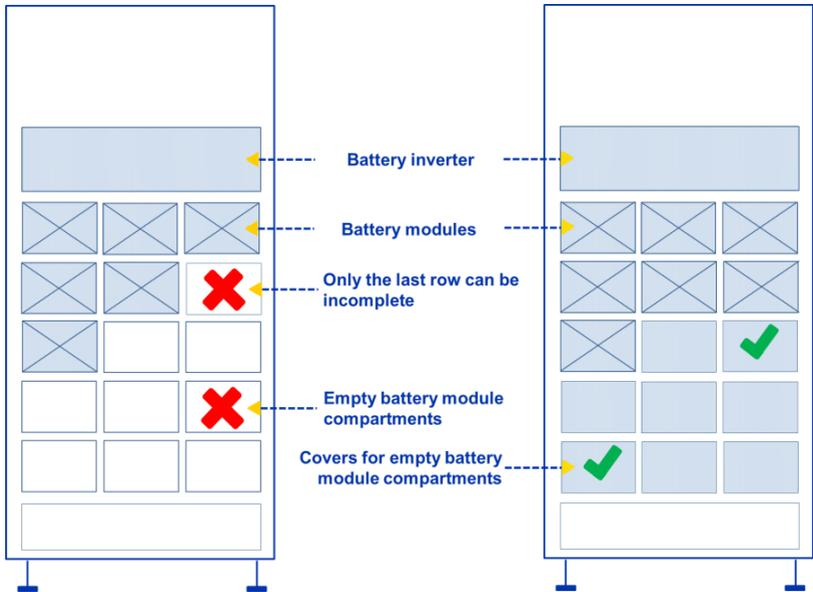

Figure 20: left: incorrectly assembled cabinet; right: correctly assembled cabinet
- For the installation sequence, observe Figure 20!
- Empty battery module compartments must be fitted with the battery module compartment covers supplied immediately (see Figure 20).